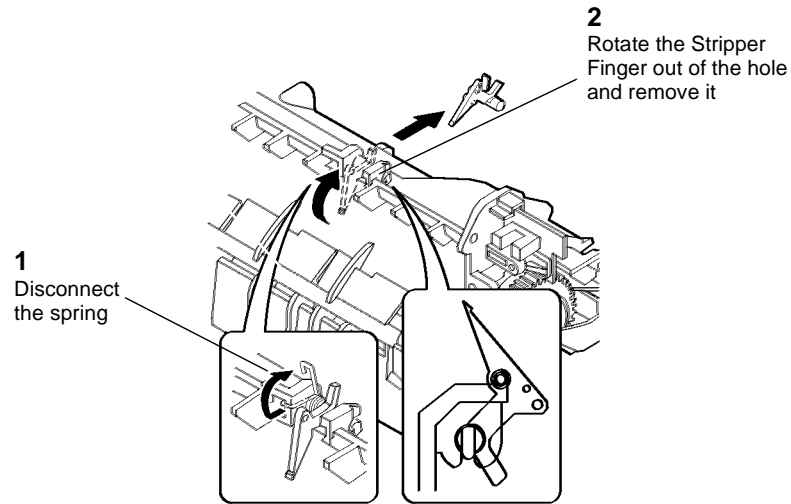

Figure 2 Removing the Stripper Fingers
6. (Figure 2): Remove the Stripper Fingers.